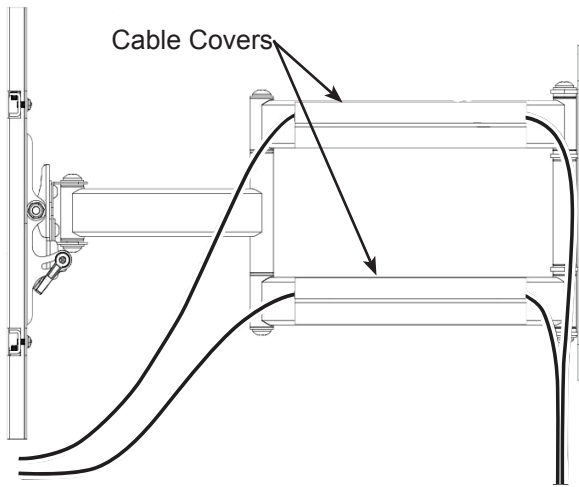

Figure 6
1. Route the electrical and data cables along the Arm Assembly and secure in place using the provided Cable Covers (Figure 6).